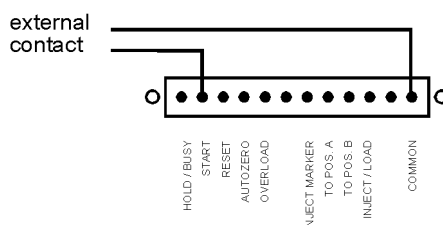

Fig. 14. Input contacts needed for external control of the Bioquant (slave mode).
1. Connect a hardware trigger of the autosampler to 'START' on the rear panel of the Bioquant as indicated in Fig. 14. A contact closure is required between 'COMMON' and 'START' to start a TimeFile. Consult your autosampler manual for details on connecting the external contact to a relay.
- 5 By pressing RUN the system is ready for automated operation. The TimeFile is started by an external contact closure from the autosampler (Fig. 14). The duration of this contact closure must be at least 100 ms. Each time a run is started the 'AUTO RUN' screen appears. After the 'RESET' command (via relay1), the 'AUTO SET' screen is displayed. The autozero command ('A-ZERO') is accessible during operation in the AUTO mode as long as 'I-Cell' is displayed.
There are at least two ways to activate a contact by TTL-low. This can be done by making a contact closure of the input with common (see Fig. 14, 'START' command) or by using an external TTL contact which is made low (see Fig. 14, 'RESET' command). In the latter case it is important that the status of the external contact is known, and that the apparatus is connected to the same ground (by the mains power supply) as the Bioquant.